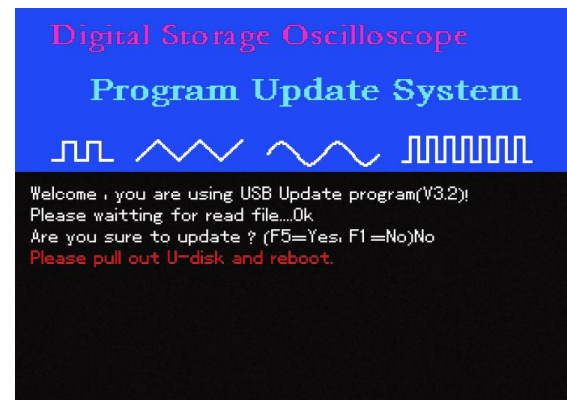

Figure 5-15
10. During upgrade, if you wish to cancel upgrade after the system has determined that the upgrade pack is correct, press [F1] to exit the upgrade system. The prompt in Figure 5-15 will appear : "Please pull out U-disk and reboot."